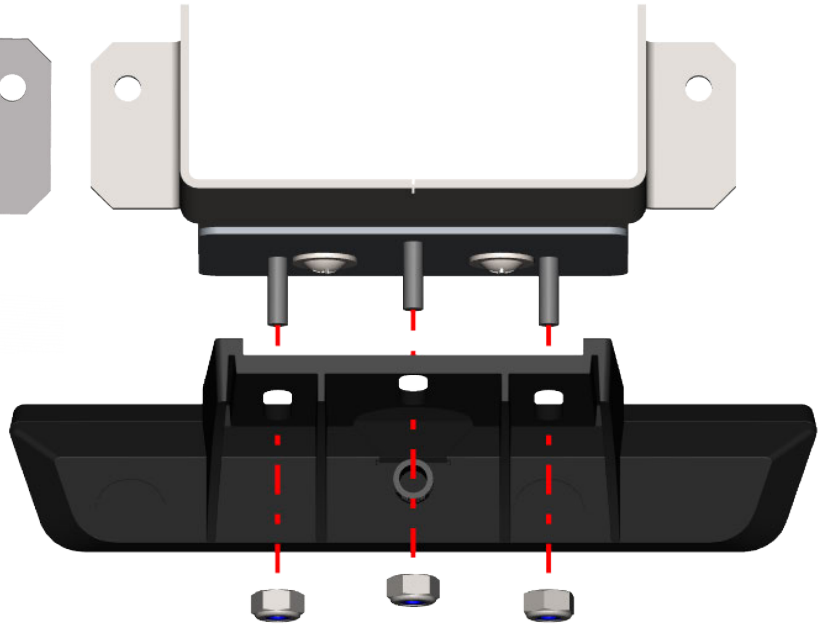

Fig. 4: Mount New control pad (rear view).
2. Mount New control pad to retrofit control pad plate aligning its slots with the mounting plate posts. Secure the New control pad to the retrofit control pad plate with provided stainless steel lock nuts using 5/16" socket. (Fig. 4)